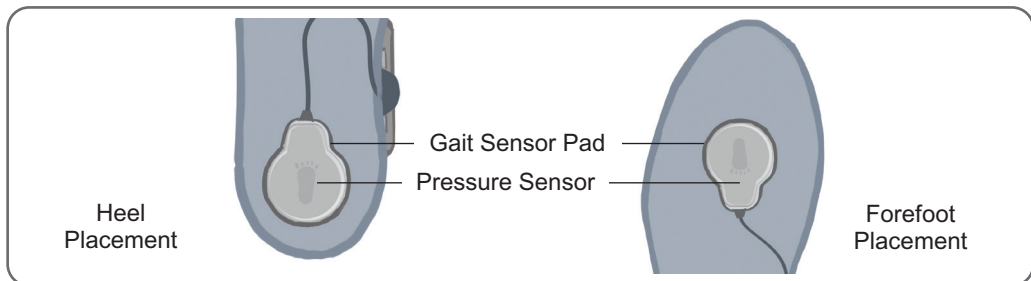

Figure 6-8: Positioning the Foot Sensor in the Shoe
3. For heel position placement, point the wire of the Foot Sensor toward the toe of the shoe. For forefoot position placement, point the wire of the Foot Sensor toward the heel of the shoe. Attach the pressure sensor to the Foot Sensor Pad. See Figure 6-8. Refer to the foot image on the pressure sensor for positioning.